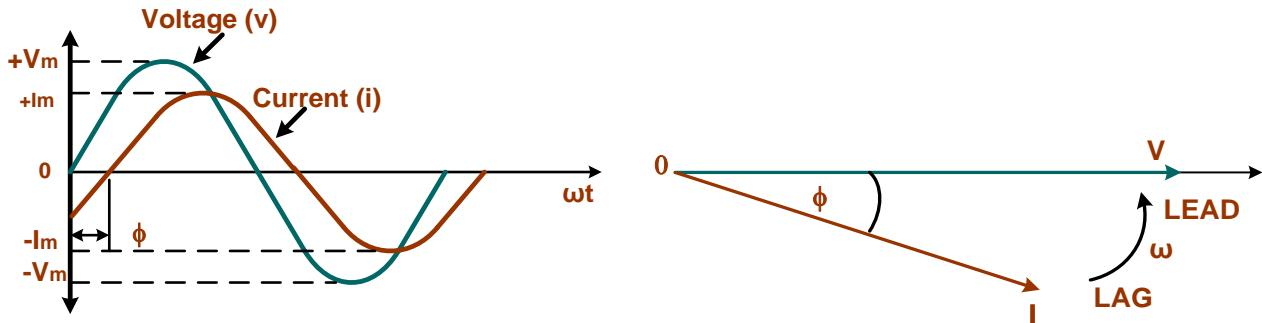

Figure 2.11 Wave Forms of Voltage & Current
- So, the difference between the two sinusoidal quantities representing in waveform shown in Fig. 2.11 & phasors representing the two sinusoidal quantities is angle  $\phi$  and the resulting phasor diagram shown in Fig. 2.12.